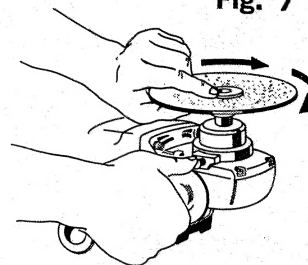

Fig. 8
- 4) With one hand, depress the spindle lock button and hold the button in. Grasp the pad and sanding disc with the other hand, and turn by hand to tighten the entire assembly (Fig. 8).
To remove pad and disc, turn pad and spindle in the direction shown in Fig. 8 to engage Spindle Lock Button, grasp the pad and disc and turn the pad and disc assembly in the opposite direction.